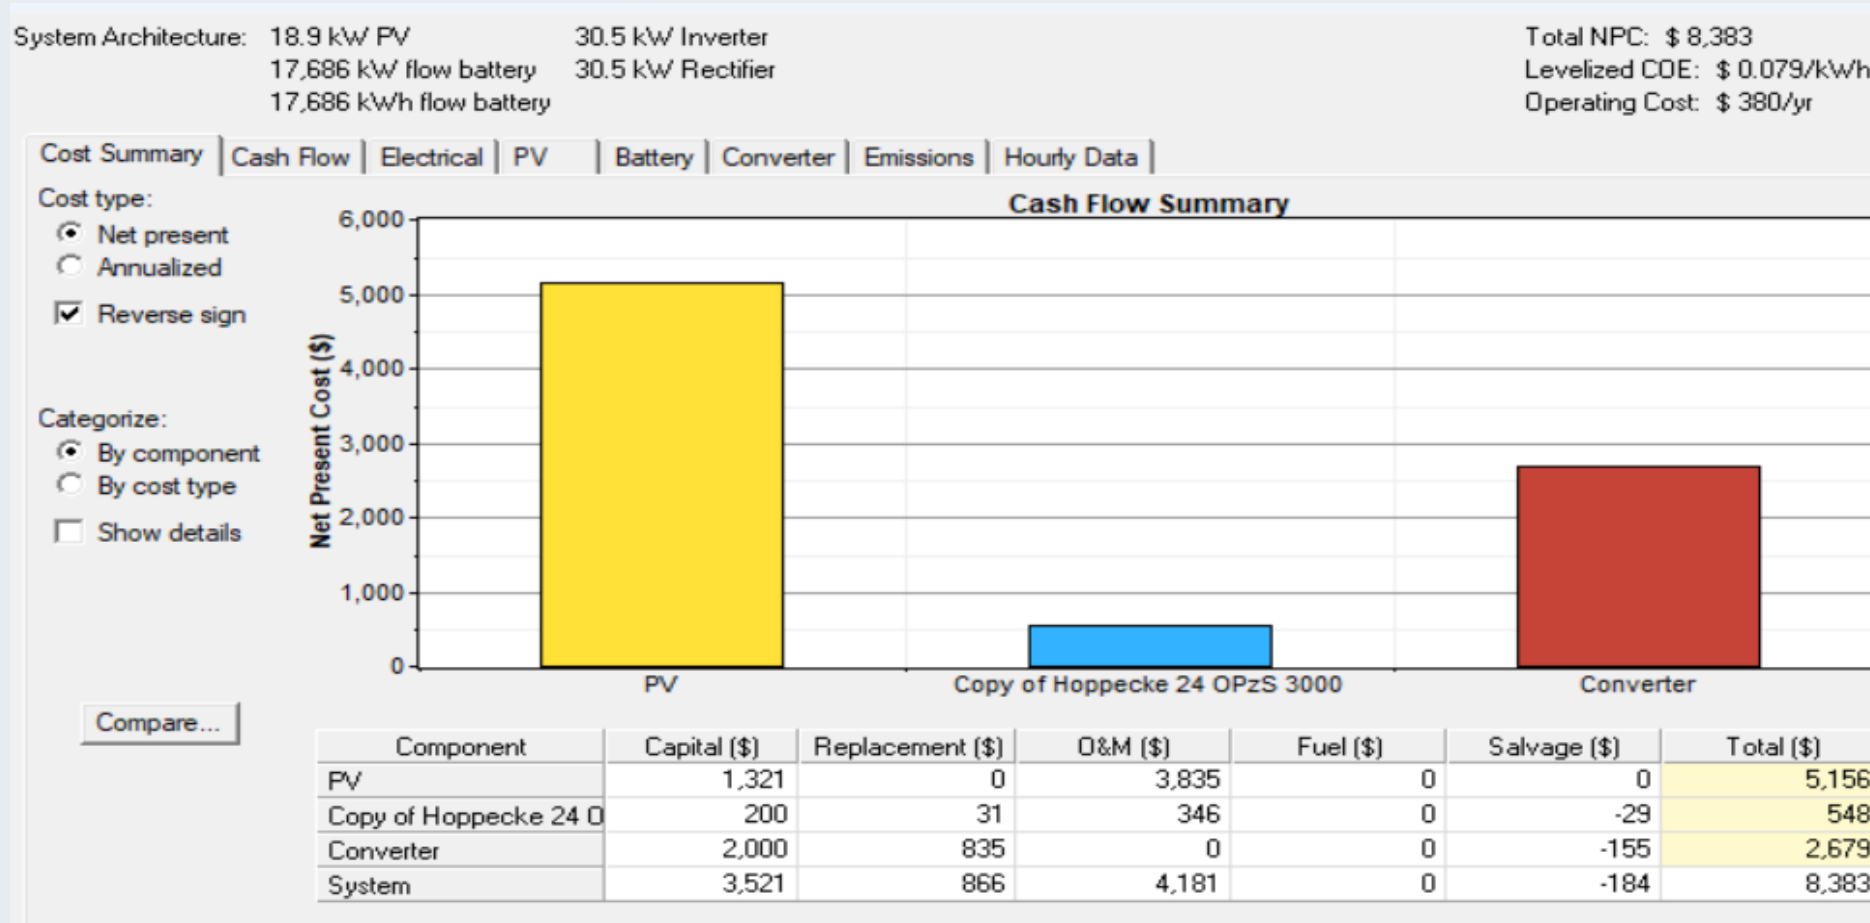

Figure 10 Cost summary of Off-grid PV system
a. Optimal Cost summary. The optimal cost summary is presented in Fig.10